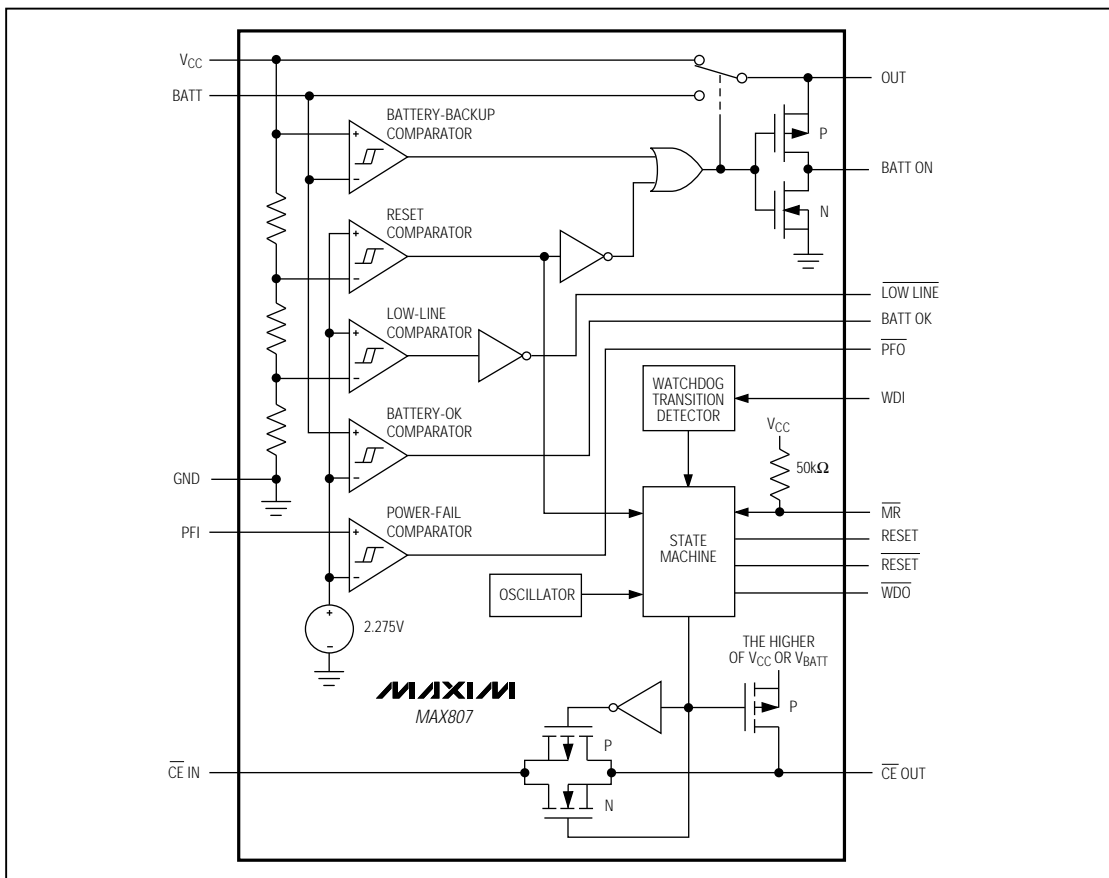

Figure 1. Block Diagram
The MAX807 microprocessor ( $\mu$ P) supervisory circuit provides power-supply monitoring, backup-battery switchover, and program execution watchdog functions in  $\mu$ P systems (Figure 1). Use of BiCMOS technology results in an improved 1.5% reset-threshold precision, while keeping supply currents typically below 70 $\mu$ A. The MAX807 is intended for battery-powered applications that require high reset-threshold precision, allowing a wide power-supply operating range while preventing the system from operating below its specified voltage range.
The MAX807 provides internal gating of chip-enable (CE) signals to prevent erroneous data from corrupting the CMOS RAM in the event of a power failure. During normal operation, the CE gate is enabled and passes all CE transitions. When reset is asserted, this path becomes disabled, preventing erroneous data from corrupting the CMOS RAM. The MAX807 uses a series transmission gate from the Chip-Enable Input ( $\overline{CE IN}$ ) to the Chip-Enable Output ( $\overline{CE OUT}$ ) (Figure 1).